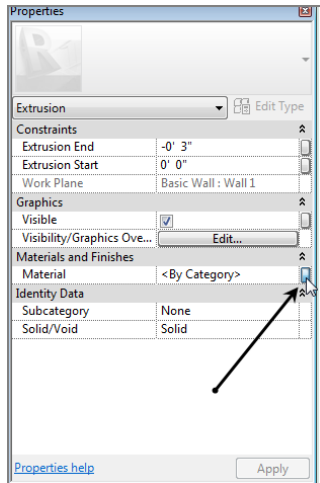

FIGURE 17.19: Clicking the button to add a material parameter
14. In the Properties dialog, make sure the type is set to Extrusion, as shown in Figure 17.19.
15. Set Extrusion End to -3" (-75mm), as shown in Figure 17.19.
16. Click the small button to the right of the Material row (see Figure 17.19).